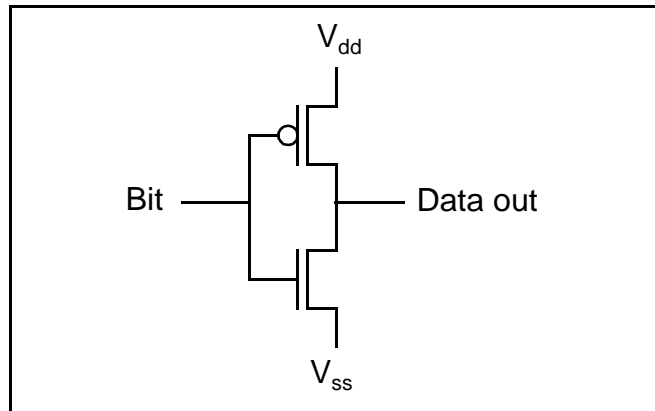

Figure 2-20 Output Buffer Basic Circuit
Figure 2-20 illustrates an output buffer with a totem pole design, named for the way the two transistors are stacked on top of one another. It is the most common output structure for MOS devices.
In most cases we have the ability to turn off both transistors using the Output Enable (OE) or the Write Enable (WE) pin. This feature is not shown in Figure 2-20.